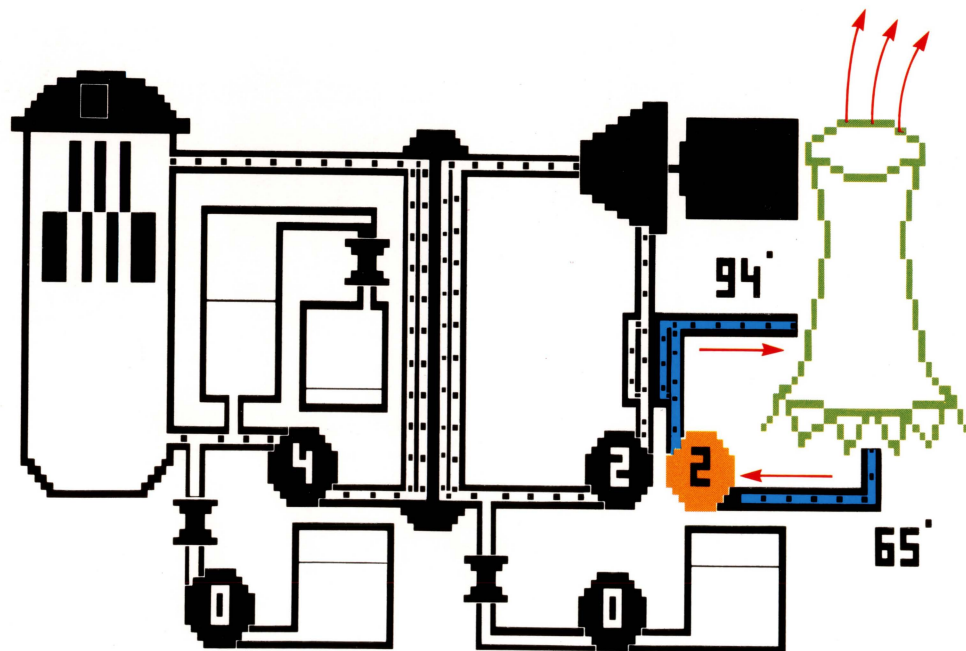

Figure 9. Cooling Tower
**Hyperbolic Cooling Tower.** In the cooling tower (Figure 9) warm water from the condenser falls from a height of about 20 feet. Some of it evaporates as it falls, transferring heat to the air. The heated air rises to the top of the tower, causing more air to be drawn in at the bottom. Cool water that reaches the bottom of the tower is piped back to the circulating water pumps. Water from the condenser enters the cooling tower at 94 degrees Fahrenheit and exits at 65 degrees Fahrenheit.